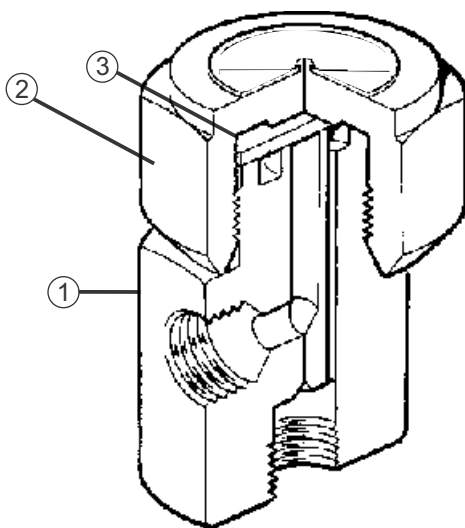

Figure 1 : Forbes Marshall Thermodynamic Trap
4.1. Operation of Forbes Marshall Thermodynamic Trap : [Refer figure 1]
7.4. Procedure to service the disc: [Refer figure 1]